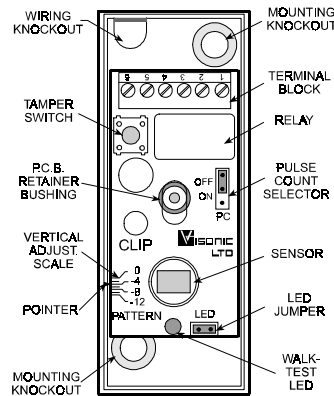

Fig. 12. Inside the CLIP
- Mount the base with the PCB intact at the location and height that gives optimum coverage. Use the two mounting knockouts (see Fig. 12). Carefully slide the PCB up to gain access to the bottom knockout which is partly hidden.
To route wires into the detector, use the wiring knockout located at the top left of the unit base (Figure 12). Since the knockout is angular, the